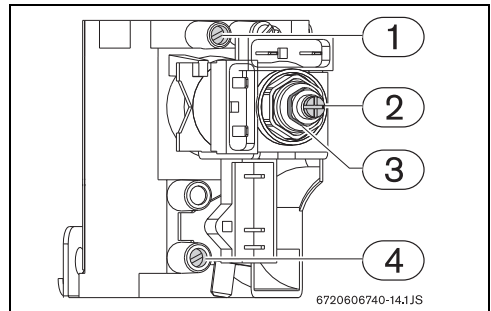

Fig. 19 Pressure measuring points
- ▶ Using the adjuster (Fig. 19, [3]) regulate the pressure to achieve the values indicated in table 14.
- ▶ Using the adjuster screw (Fig. 19, [2]) regulate the pressure to the values indicated in table 14.